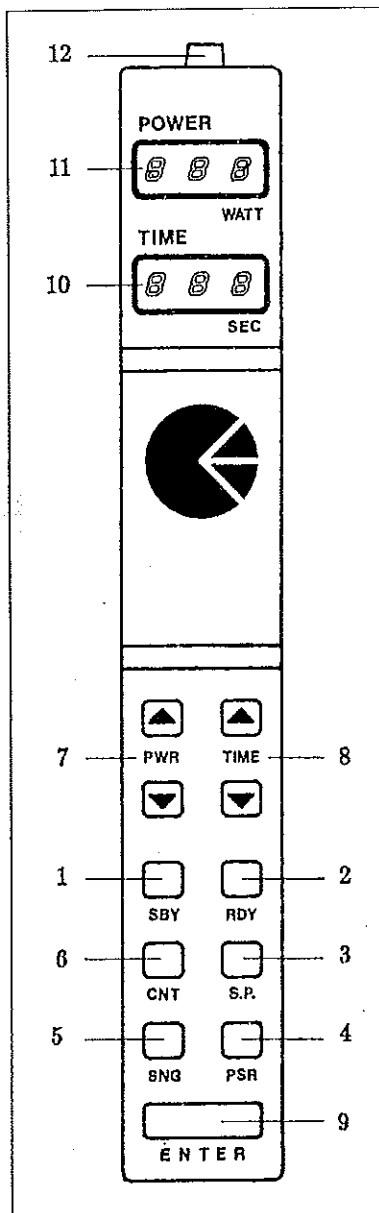

Figure C-1. SHARPLAN 750
Refer to Figure C-1 for items 1 through 12.
2. Connect one end of the RCU cable (female connector) to the connection point on the RCU unit (see Figure C-1, item 12).